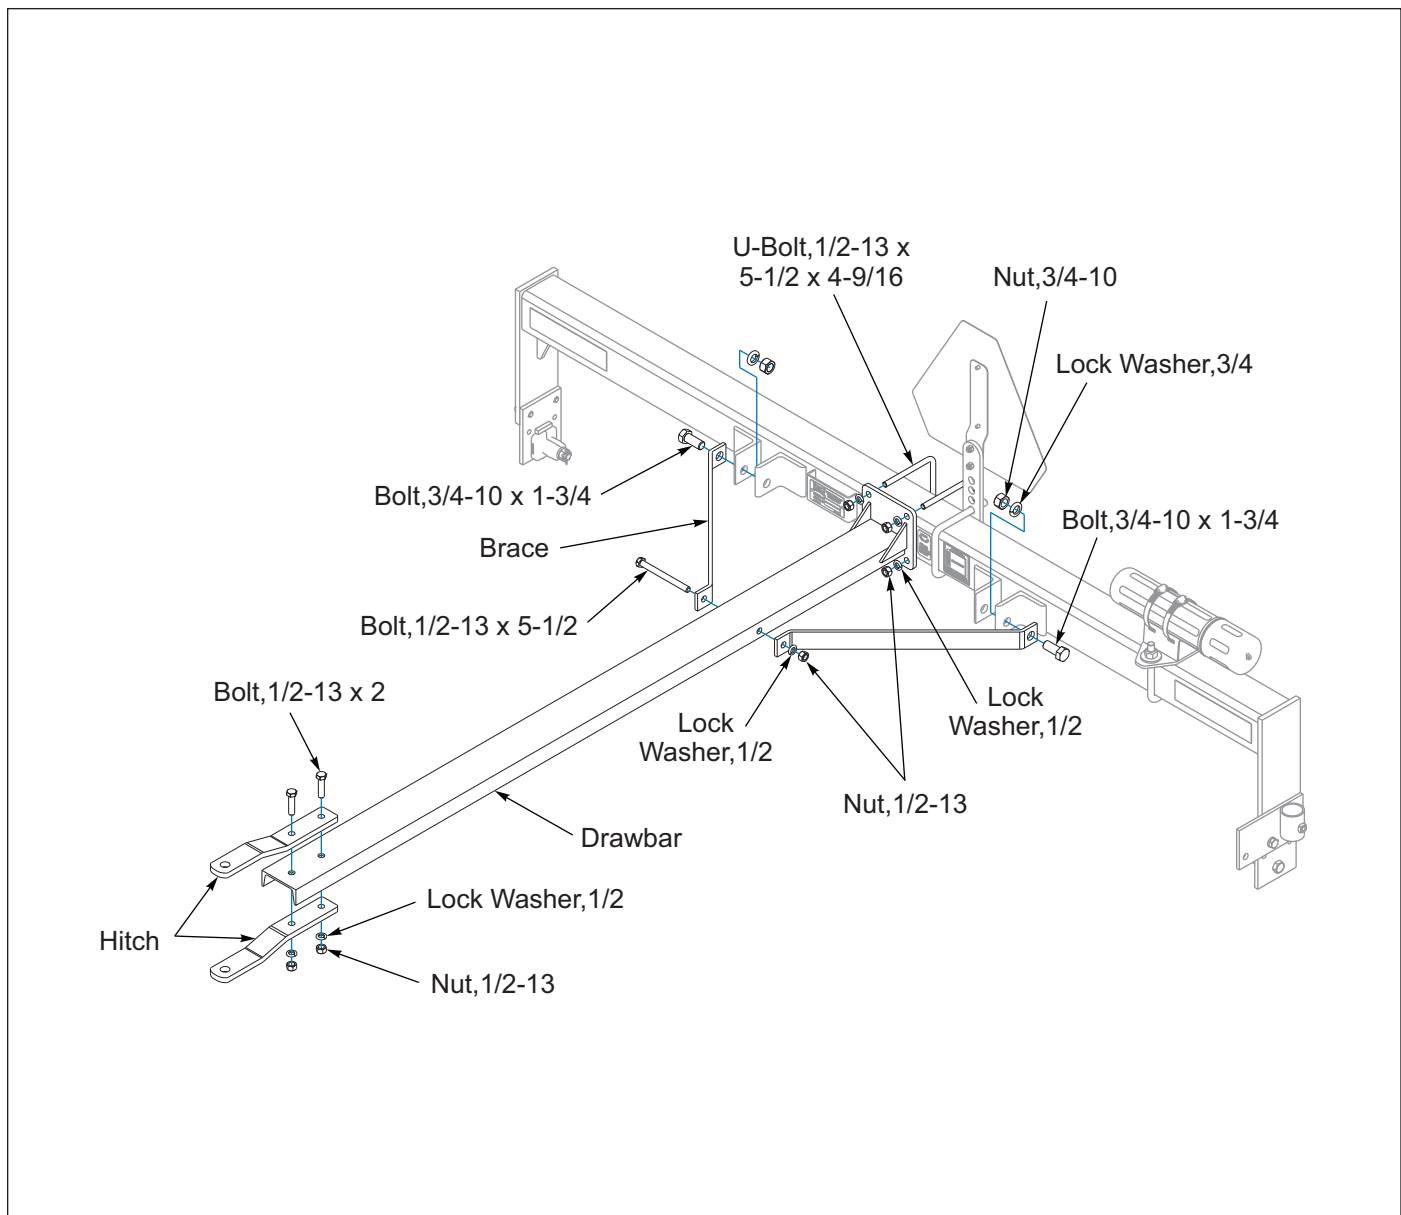

Figure 2-2: Hitch Kit, PP5-7
1. Attach Drawbar to the center of the front Frame Tube with 1/2-13 U-Bolts, Lock Washers, and Nuts. **See Figure 2-2.**